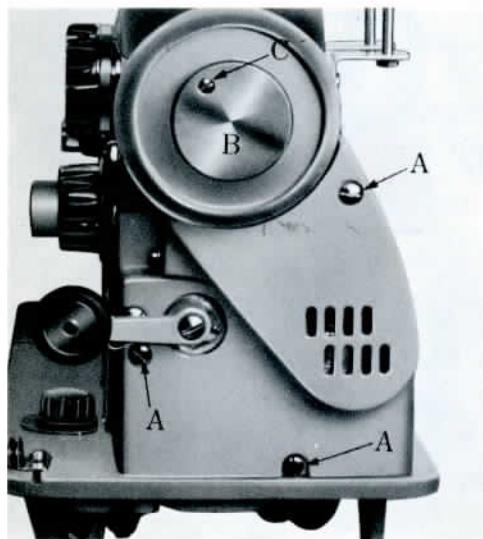

Fig. 63
- (1) Remove screws A (Fig. 63).
- (2) Remove rear cover.
- (3) Remove clutch nut B in center of hand wheel (Fig. 63) by taking out small screw C. Turn nut counter-clockwise by holding the take-up lever until it can be lifted off.